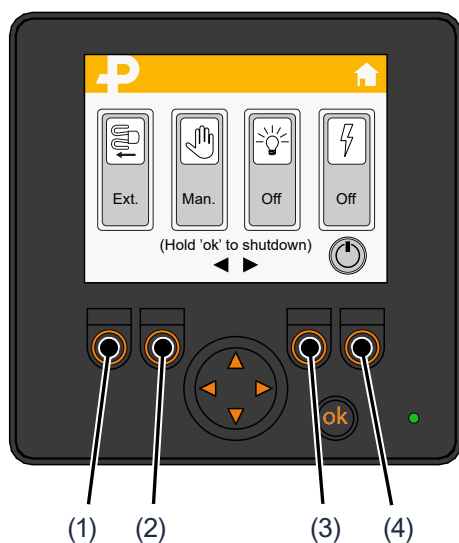

Fig 80.
3. Set the machine to manual mode by pressing the button (2) Fig 80.
4. Set the tool to de-clipping "Ext" mode by pressing the button (1) Fig 80.